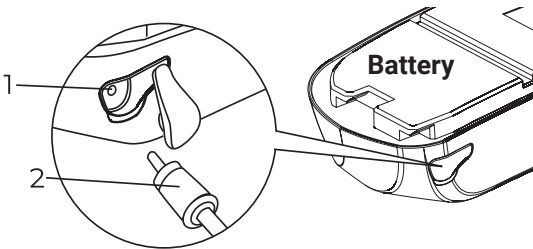

Fig. 7b
- Remove the battery pack from the respirator system. Connect the charger (2) to the battery (1) (see Fig. 7b).